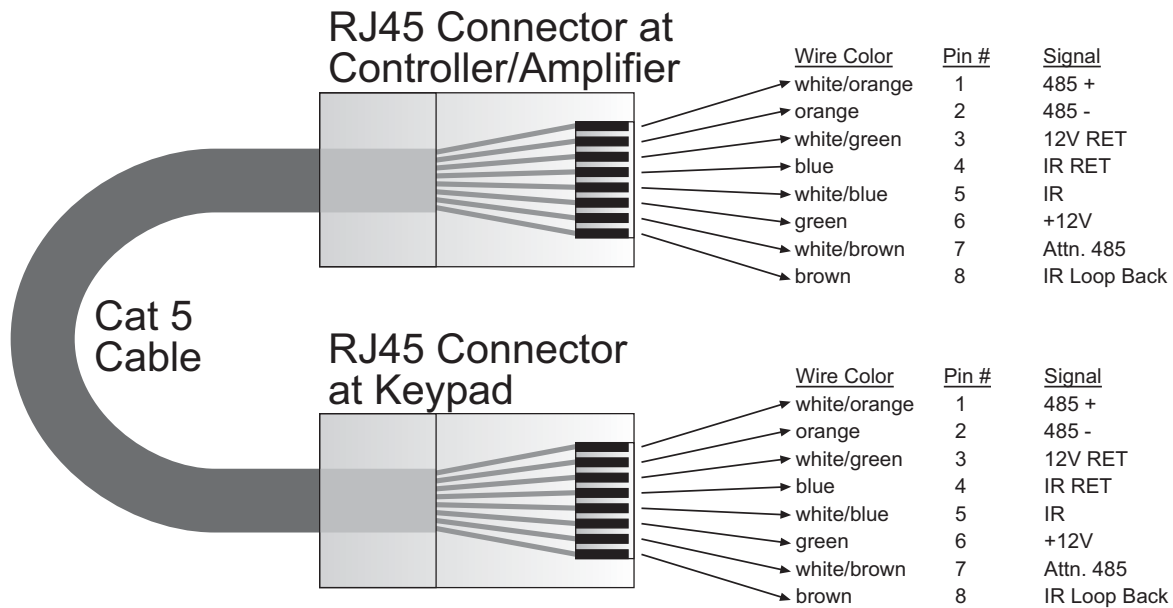

Figure 10 - CAT5 Pin Assignments (per EIA/TIA 568B) Pinned 1:1
3. With the Controller/Amplifier turned off, connect the CAT5 cable to the appropriate RJ45 connector, using **Figure 10** as a guide for CAT5 termination.
The MRC88 'Pin-to-Pin' CAT5 cabling that can be purchased pre-fabricated at fixed lengths or self-assembled to custom lengths. The color-coded wiring standard is EIA/TIA 568B as shown in Figure 10. The plastic connector on the end of the CAT5 wire is "registered jack" RJ45.
1. See Figure 10 for proper termination of the CAT5 cables to the RJ45 connectors.
1. Refer to **Figure 10** for proper termination at the zone-end of the CAT5 cable.
1. For a second keypad in the same zone, terminate the CAT5 cable in the same way as shown in **Figure 10**.